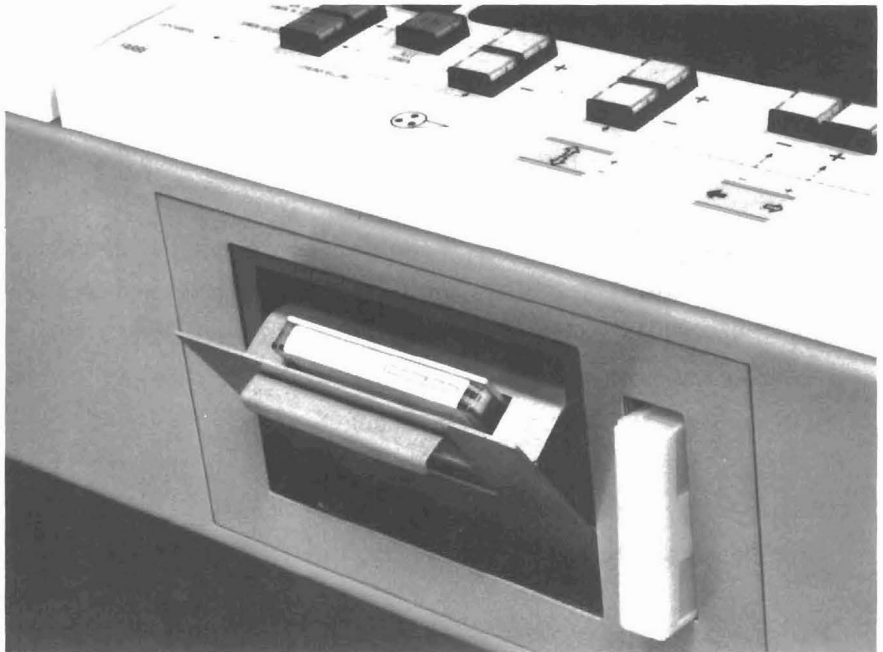

Fig. 6
- Tape cassette (Fig. 6) to store the ink profile of a previous run for a repeat run of the same job. (Cassette mainly because of safety against fingerprints and dirt.)